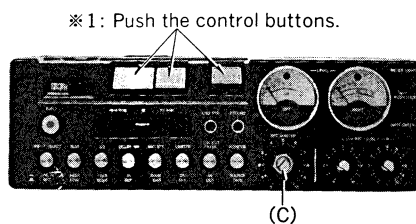

Fig. 3
| 1         | Front panel (※ 1... See fig. 3) | 4 knobs ..... (A)3 screws ..... (B)Nut ..... (C)           | 223              |